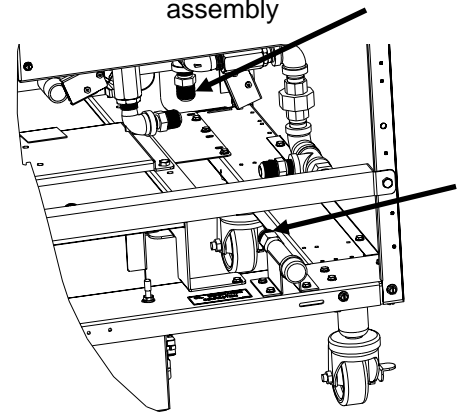

Figure 5: Connect the 11.5" flexline to these two points.
13. Attach the 11 ½" flexline from bottom of the assembly to the rear oil discharge nipple assembly, mounted on the rear of the fryer, installed in step 4. See Figure 5.